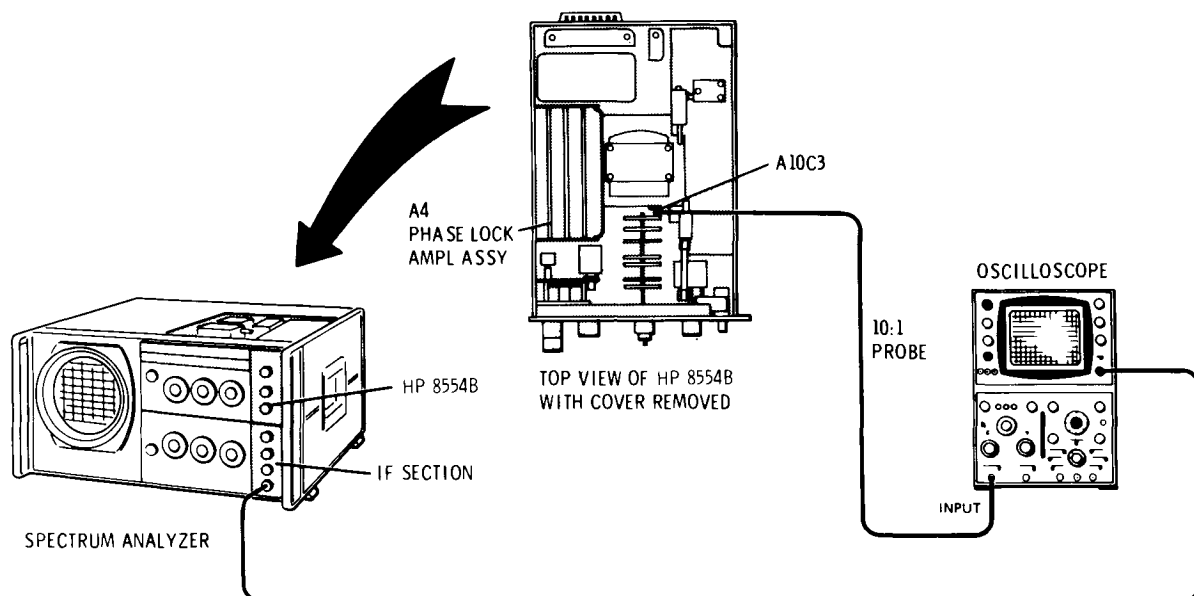

Figure 5-13. Full Scan Sampler Output Check and Adjustment
- 3. Connect test setup shown in Figure 5-13 and make the following control settings: